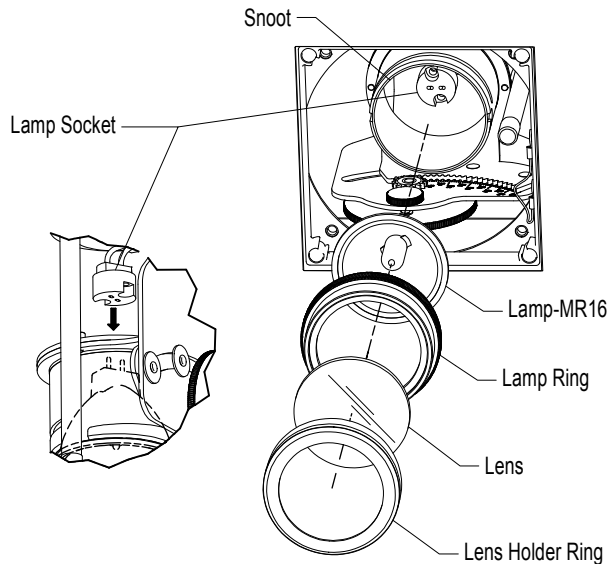

FIG 1.1 Replacing lamp
Step 2 Pull Lamp Socket through Snoot then push socket onto lamp terminals - FIG 1.1.
Step 3 Secure Lens (up to 3) using Lens Holder Ring - FIG 1.1 & 1.2.